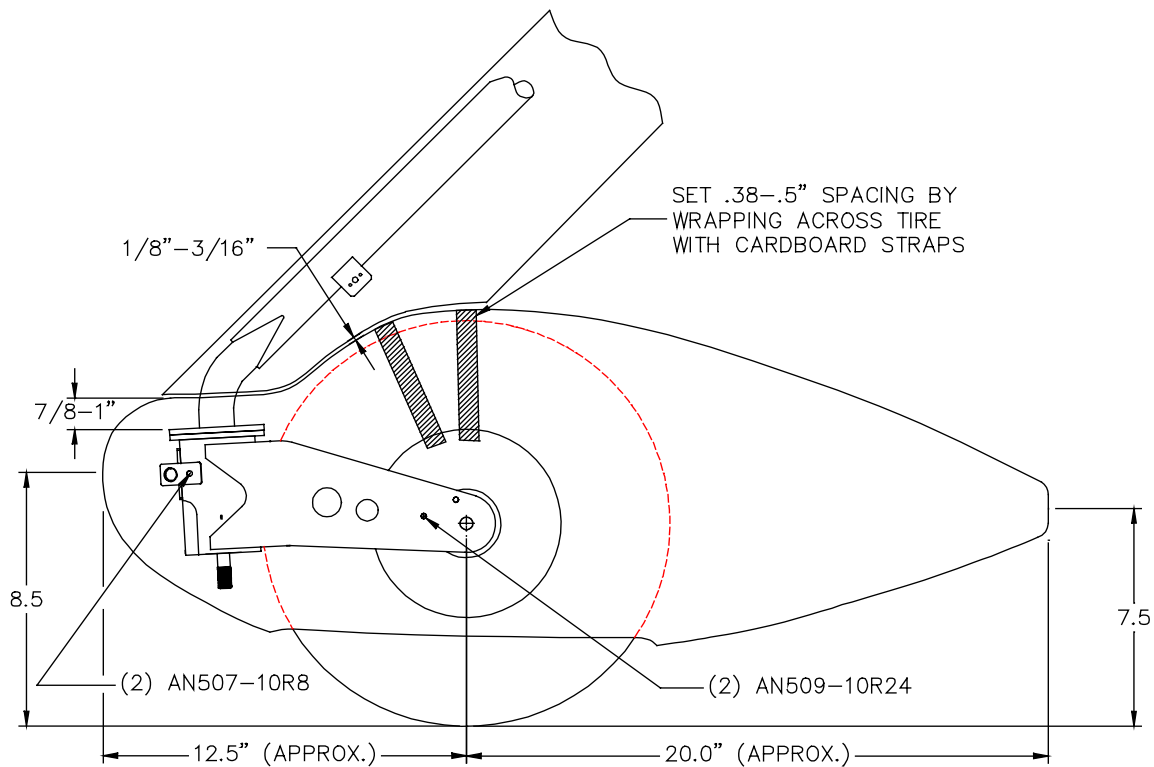

Figure 71: Nose Wheel Pant Installation
The Sportsman nose wheel pants are designed to fit over a 5.00 x 5 wheel and tire assembly. The pants come in two halves, the **forward nose wheel pant** [182] and **aft nose wheel pant** [183]. The fastener locations are marked on each nose wheel pant. A three-layer laminate of bi-directional cloth must be added to the inside each pant half so the countersunk screw heads do not pull through. Cut (12) **1.5" x 1.5"** patches of cloth to provide three-layer reinforcements at the four screw locations common to the fork and the towbar bracket shown in Figure 71. Make the forward ones long enough to cover the entire towbar bracket flange.
As you did on the main wheel pants, wrap the tire across the tread with cardboard straps to set a .38-.5" gap between the tire and the pant. Tape the ends to the wheel hub. Begin trimming for the tire and the gear strut until you meet or are close to the dimensions shown in Figure 71. The leading edge of the forward pant half is approximately 12.5" forward of the axle. At this position, the forward pant should be against the towbar bracket assembly on the nose fork and the #40 hole that you drilled should be inside the towbar bracket socket. Tape a spacer 7/8-1" thick on top of the nose fork pivot in order to set the flat part of the pant above the nose fork as shown in Figure 71. Tape the two pant halves together.
In this step you must locate the #10 hole off the nose fork (the one showing (2) AN509-10R24 screws) forward of the axle as shown in Figure 71) and then match drill the pant. No simple task considering you are trying to locate a hole in the nose fork from the outside of the wheel pant!